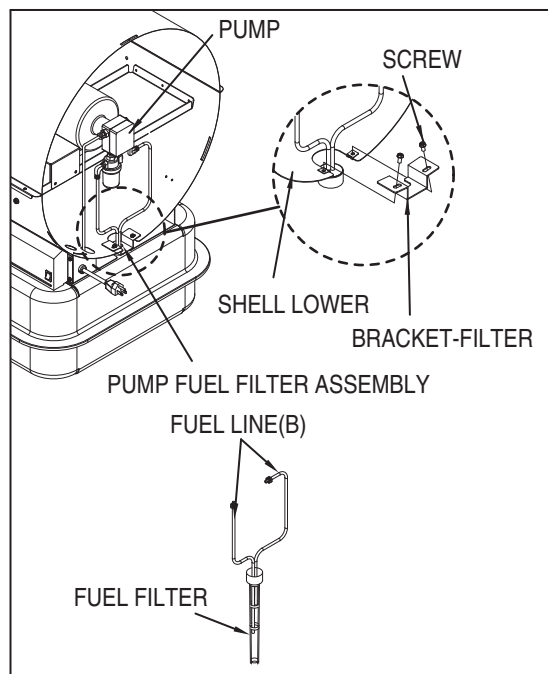

Figure 13. Remove Tank Fuel Filter
- Disconnect fuel line (B) from pump and pump fuel filter assembly with 3/8" wrench (See Figure 13)
- Connect fuel lines (B) to pump and pump fuel filter assembly.